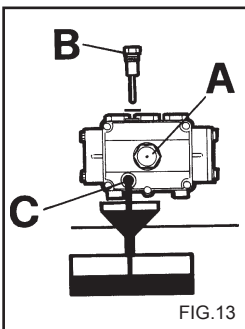

FIG.13
- 2) Unscrew the cap with the dipstick (fig. 13).